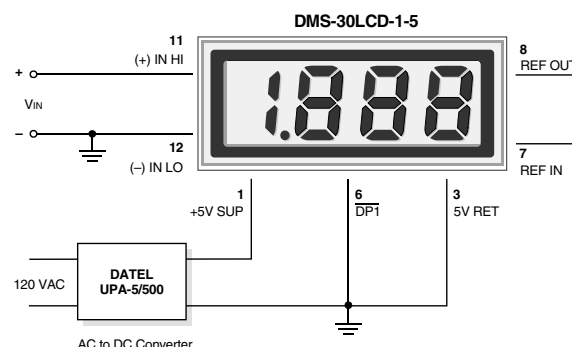

Figure 2. Single-Ended Input Configuration
1. **Single-Ended Input Configurations:** True single-ended measurements can only be made with 5V-powered meters. The circuit of Figure 2 avoids problems normally associated with ground-loop currents. Separate ground runs should be used for 5V RETURN (pin 3) and (-) INPUT LO (pin 12).